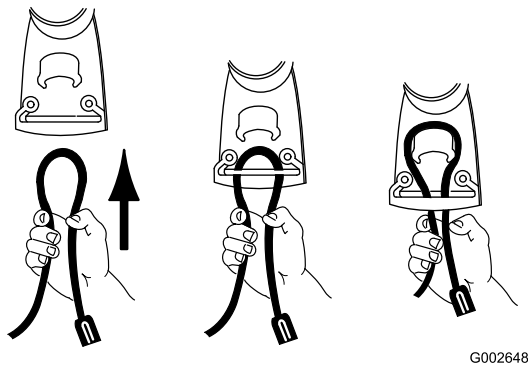

Figure 12
1. Form a loop in the extension cord and secure it in the cord lock (Figure 12).